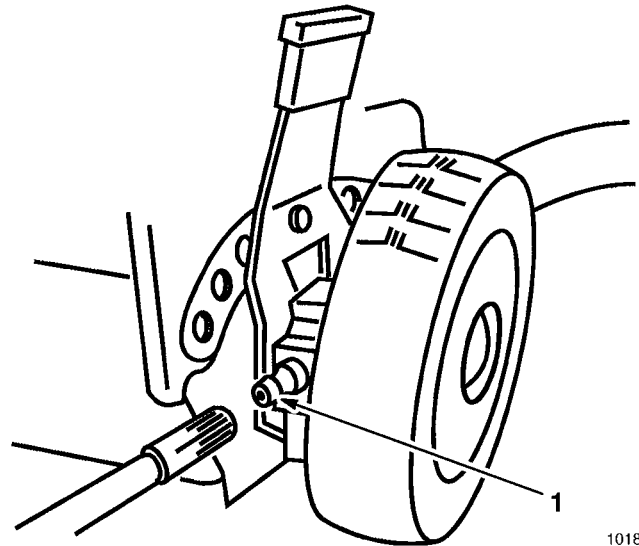

Figure 27
1. Wipe grease fittings on rear height-of-cut adjusters (Fig. 27) with clean rag.